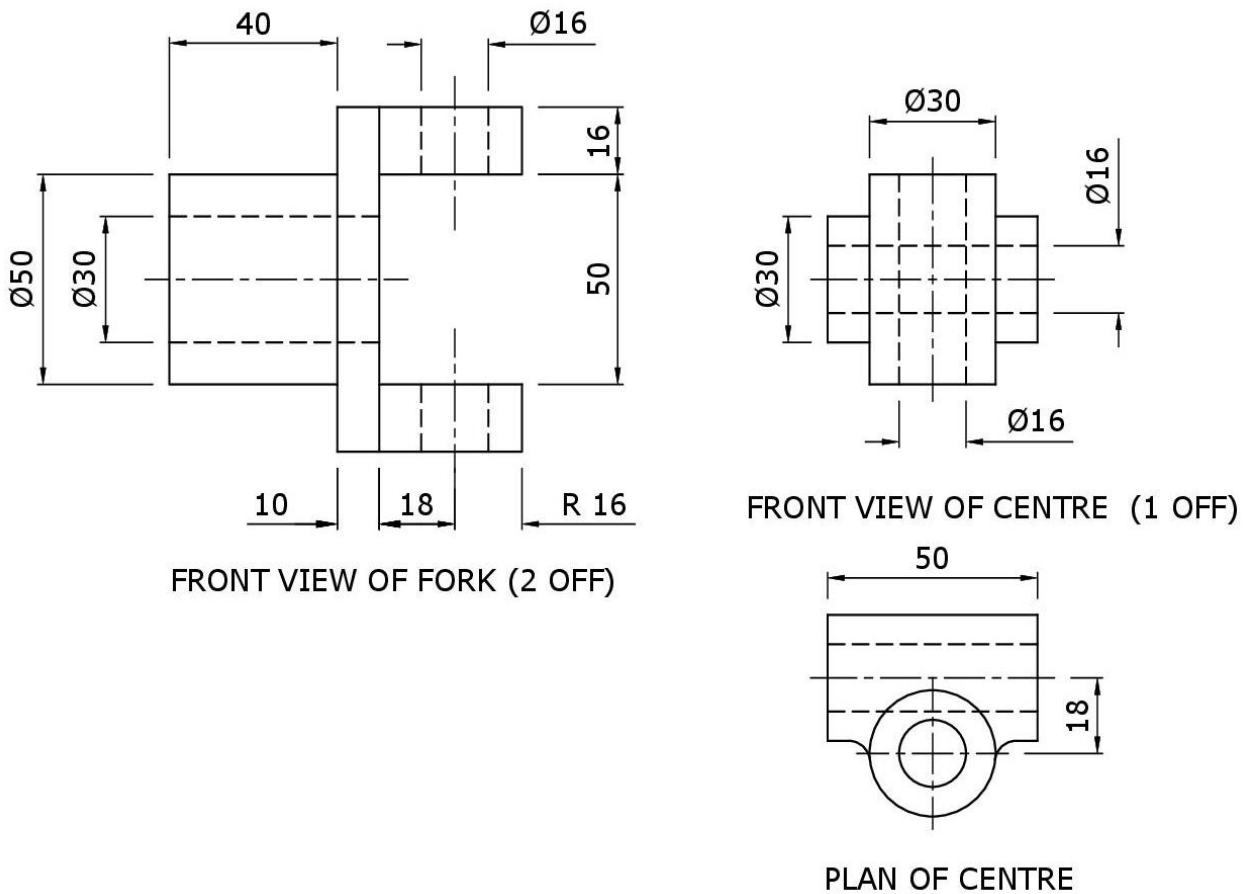

Figure 3
3. The basic details of a coupling which is to connect two shafts that have a small degree of misalignment (allows slight axial displacement) is shown in Figure 3.
- Sketch neatly, approximately full size and in good proportion, a suitable isometric design of the coupling. The left fork, centre and right fork are to be on the same centre line and are to be shown pulled apart. (14)
- Draw a dimensioned orthographic view of the component that is to secure the forks to the centre so as to complete the coupling. (4)
- The above coupling is referred to by a particular name, write down the name. (1)
- State the name of a suitable feature that is to be incorporated between the shafts and the 30 mm diameter bore of the coupling. (1)